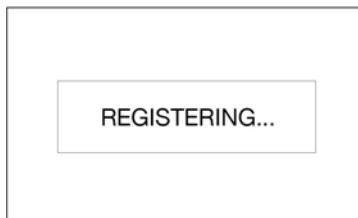

FIG. 16
4. Press the ENTER button. REGISTERING appears in the middle of the display during registration as shown in FIG. 16.